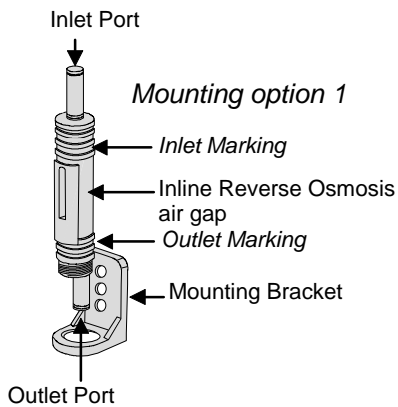

Fig 1-1
2. Check inlet and outlet ports marking on AG110-001 body and install AG110-001 into the threaded opening of the mounting bracket as shown on FIG 1-1 (mounting options 1 and 2), for dimensions see FIG 1-2.